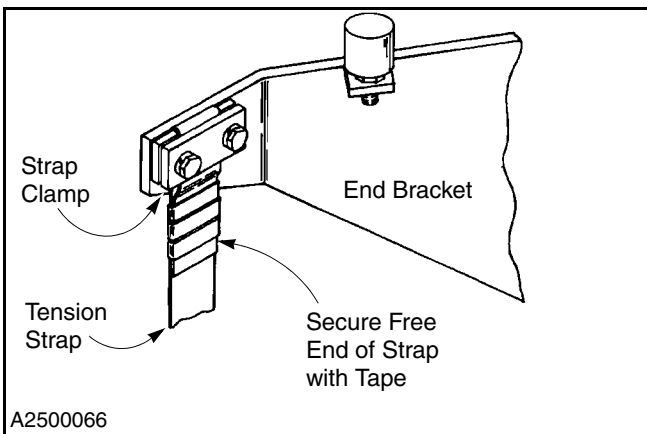

Figure 77
7. Attach the strap to the end bracket. (See Figure 77.)